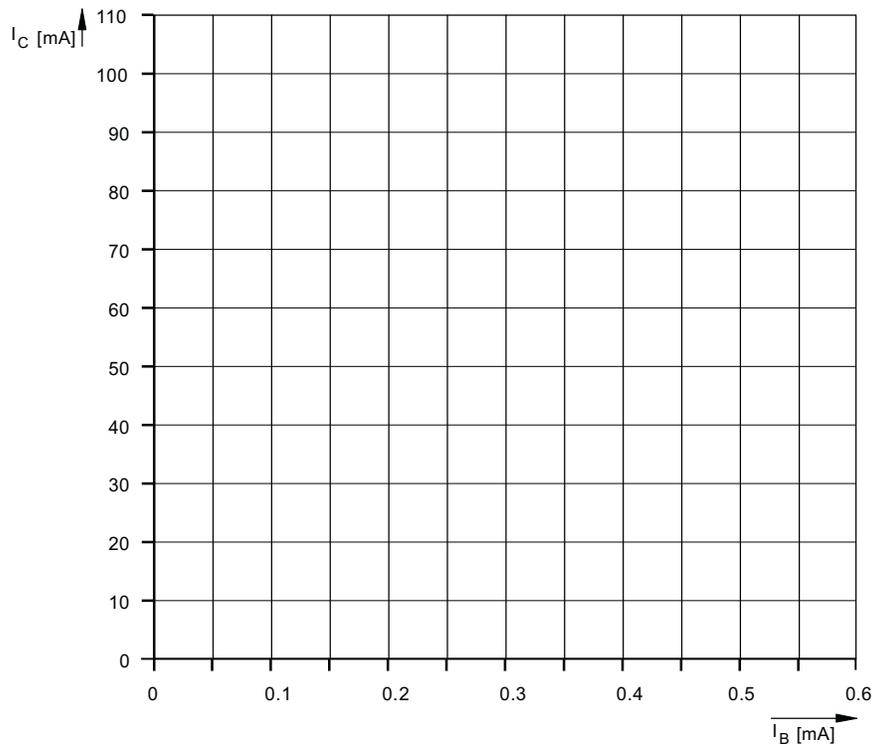

Fig. 4.2.2.4
**Question 1:** What does the characteristic (Fig. 4.2.2.4) demonstrate?